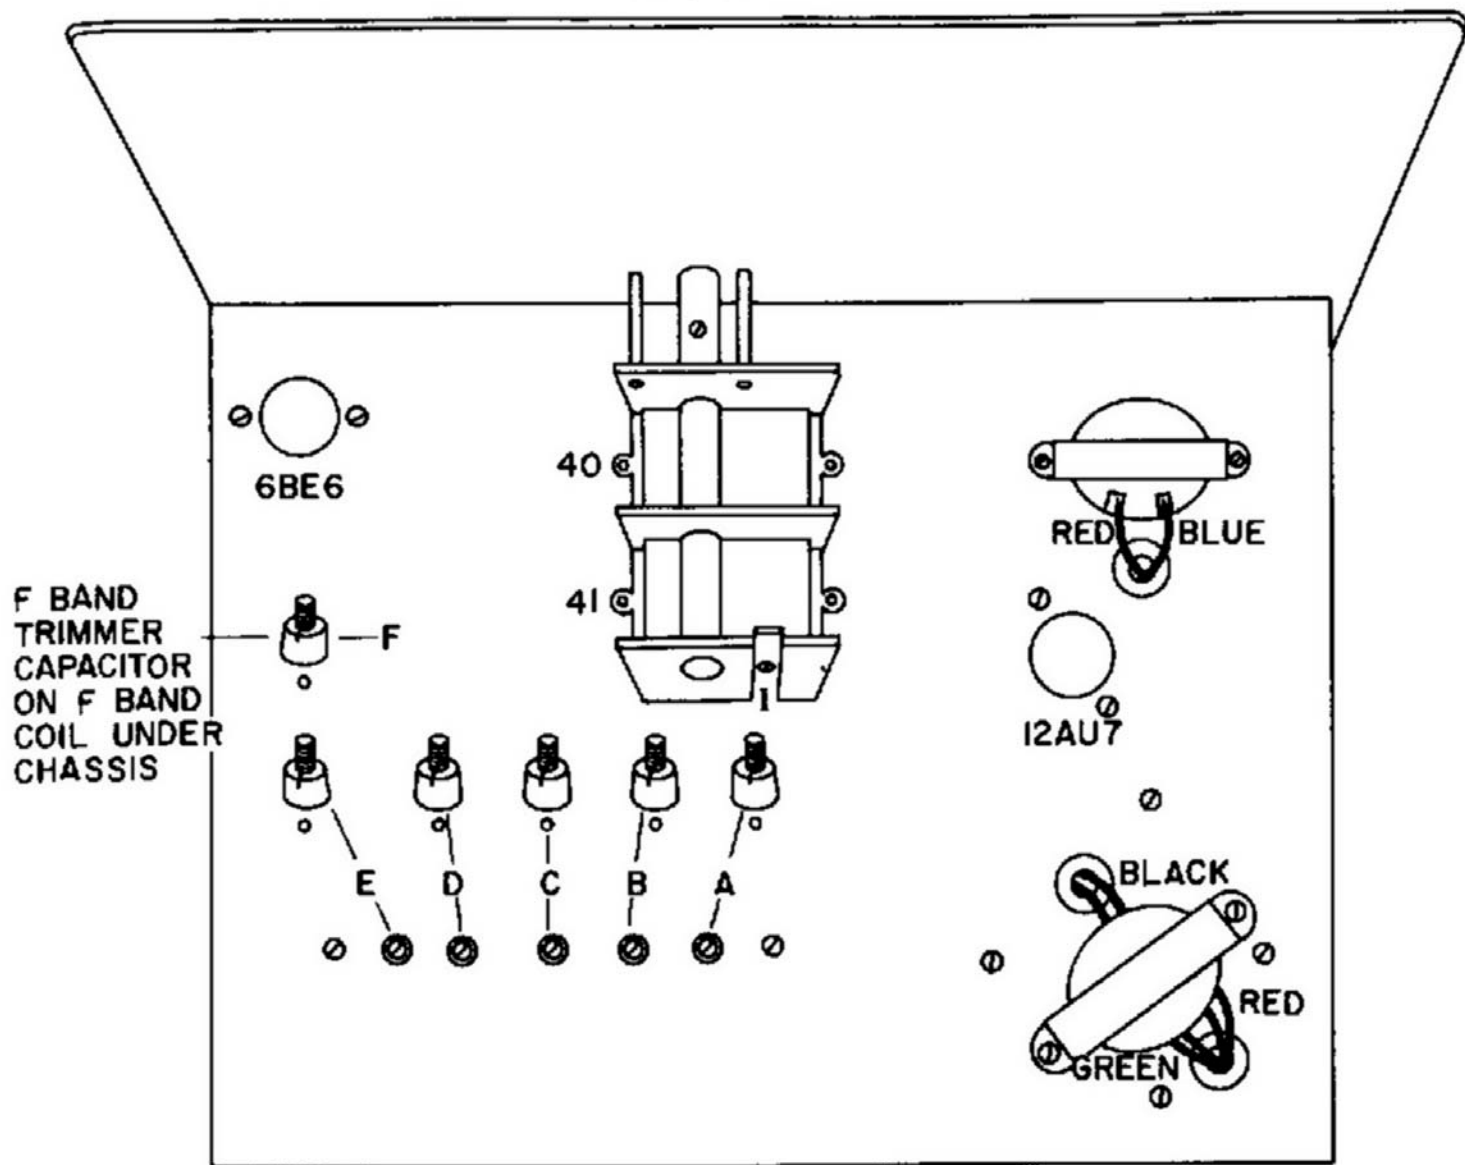

Fig. 5. Top view of chassis identifying the coil and capacitor adjustment for each frequency hand.
- () Identify the coil and capacitor adjustment for each band by referring to Fig. 5. We suggest you use pencil or crayon to mark the band letter on top of the chassis between the trimmer hole and its associated coil. This will help prevent you from accidentally turning a wrong adjustment.